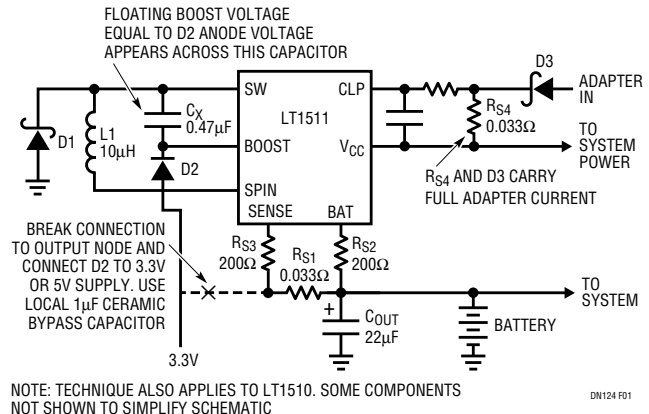

Figure 1
When operating these chips near their maximum power levels, extra care should be taken to minimize chip power dissipation and to keep the overall thermal resistance of the package-board combination as low as possible. Figure 1 shows a simple way to reduce power dissipation with no loss in performance. The LT1510 and LT1511 use an external diode (D2) and capacitor (CX) to generate a voltage that is higher than the input voltage. This voltage is used to supply the base drive to the internal NPN power switch to allow it to saturate with a forced hFE of about 50. Switching speed and on-resistance losses are minimized with this technique. The *required* boost voltage is only 3V, but with the normal connection of D2, the resulting boost voltage is equal to the battery voltage. Unnecessarily high base drive losses result with high battery voltages. Connecting D2 to a 3.3V or 5V supply (VX) instead of to the battery reduces chip dissipation by approximately: